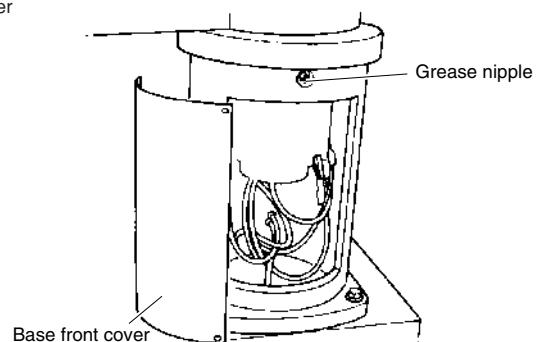

Fig. 5-26
- 8) Using the grease gun, pump the specified grease into the grease nipple located on the front of the robot base. (See Fig. 5-26.)